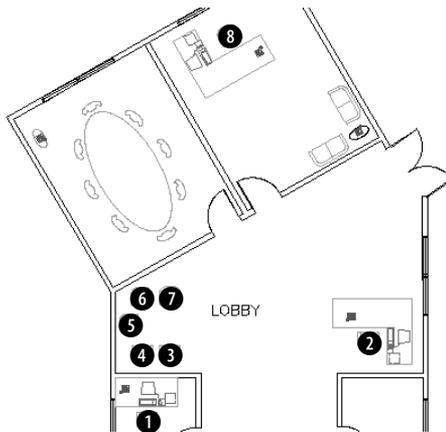

Figure 18-27: The office building plan includes several blocks of armchairs with invisible attributes.
1. Open `ab18-i.dwg` from the CD-ROM. This is the same office building plan you used earlier in this chapter, shown in Figure 18-27.